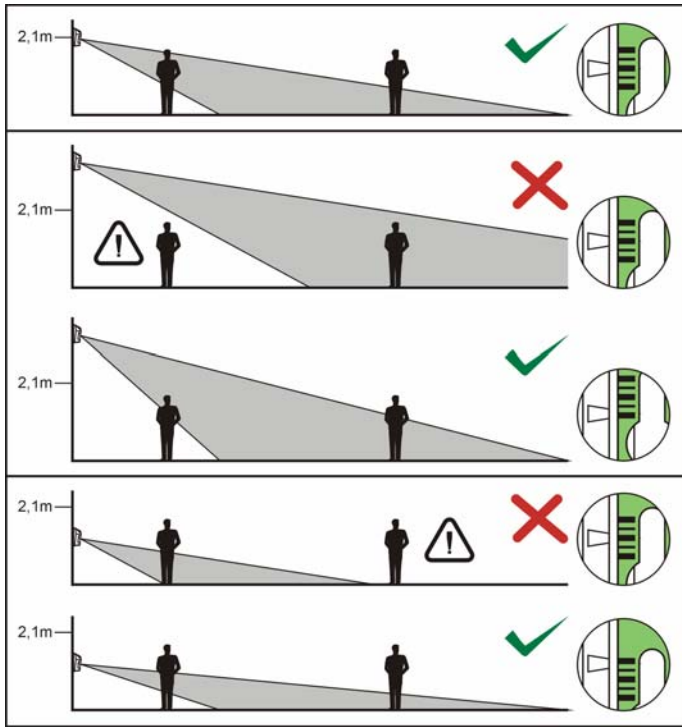

Figure 4. Impact of the detector installation height on the controlled area and positioning of pyroelement in relation to the lens for the optimal setting.
- NC** – relay (NC)
- 6 – scale for positioning of pyroelement against the lens (see Table 2 and Figure 4).
6. Fasten the electronics board, taking into consideration the height of detector installation (see Table 2 and Figure 4).